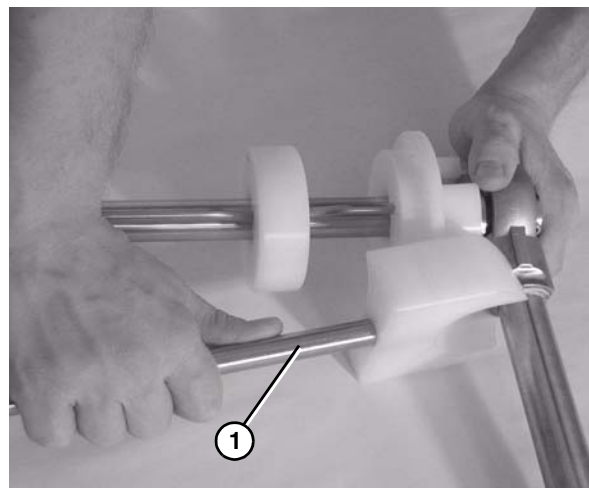

Figure 73
4. Attach the guard bar (**Figure 73, item 1**).